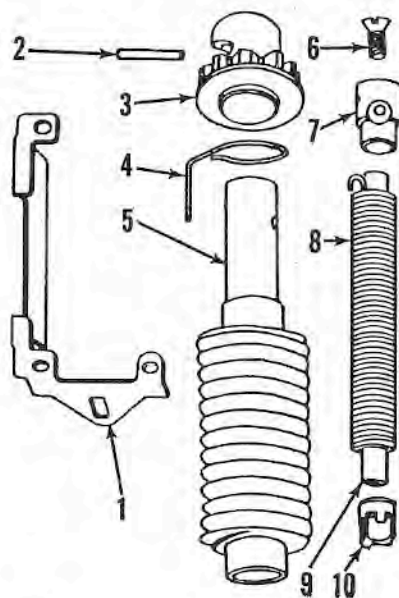
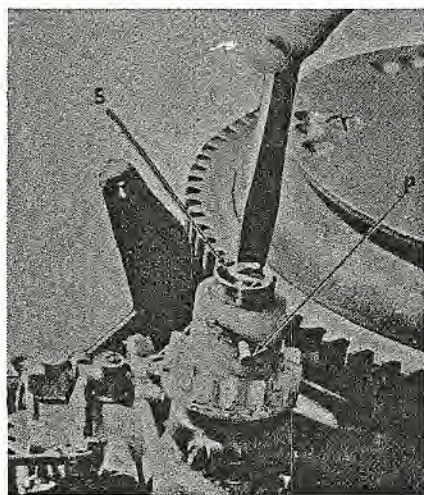

Fig. WB41—Exploded view of recoil starter of the type used.
Fig. WB42—To disassemble the starter, first remove lock screw (S) and install the special tool before attempting to remove drive pin (P). Refer to text.
Fig. WB41 shows an exploded view of the recoil starter assembly. Starter pinion (3) engages a starter ring gear on the flywheel. (See Fig. WB42).
To disassemble the starter, first remove the engine cover, then remove screw (S—Fig. WB42) in top of starter shaft. NOTE: This screw locks pin (P) in place. Thread the special "T" handle tool (West Bend, T3139) in threaded hole from which screw (S) was removed. Tighten the tool until it bottoms; then turn tool handle slightly counter-clockwise to relieve recoil spring tension, and push out pin (P). Allow the tool and starter drive (7—Fig. WB41) to turn clockwise to unwind the recoil spring (8). Pull up on tool to remove the recoil spring and components. Guide post (9) and spring retainer (10) can be lifted out after recoil spring is removed.